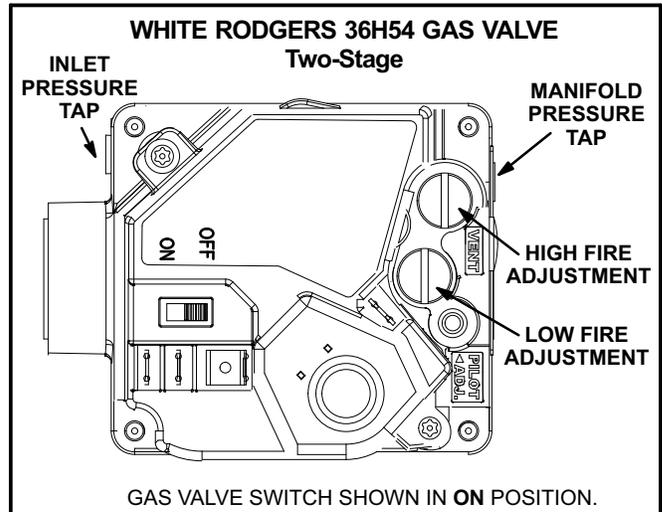
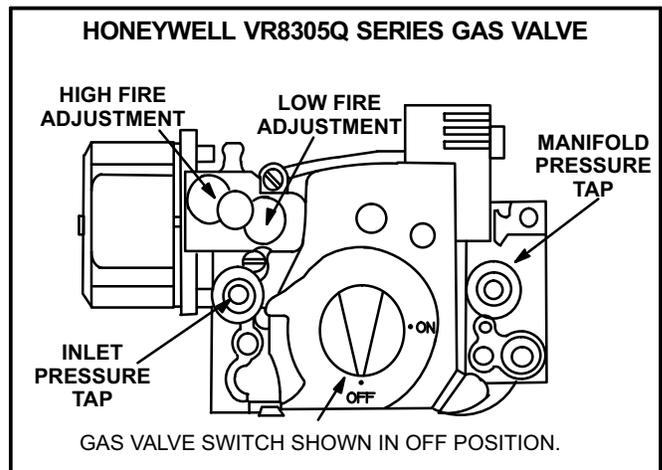

FIGURE 16
FIGURE 17
Gas Valve Operation for Honeywell VR8305Q or White Rodgers 36H54 (figure 16 or 17)
- 5- Turn gas valve switch to **OFF**. See figure 16. On Honeywell VR8305Q gas valves, turn the knob on the gas valve clockwise  to “**OFF**”. Do not force. See figure 17.
- 6- Wait five (5) minutes to clear out any gas. If you then smell gas, **STOP!** Immediately call your gas supplier from a neighbor's phone. Follow the gas supplier's instructions. If you do not smell gas, go to the next step.
- 7- Turn gas valve switch to **ON**. See figure 16. On Honeywell VR8305Q gas valves, turn the knob on the gas valve counterclockwise  to “**ON**”. Do not force. See figure 17.